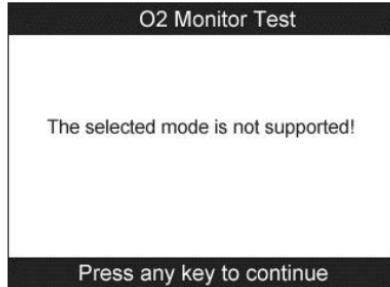

Figure 5.24
- If the vehicle does not support the mode, an advisory message will be displayed on the screen (*Figure 5.24*).